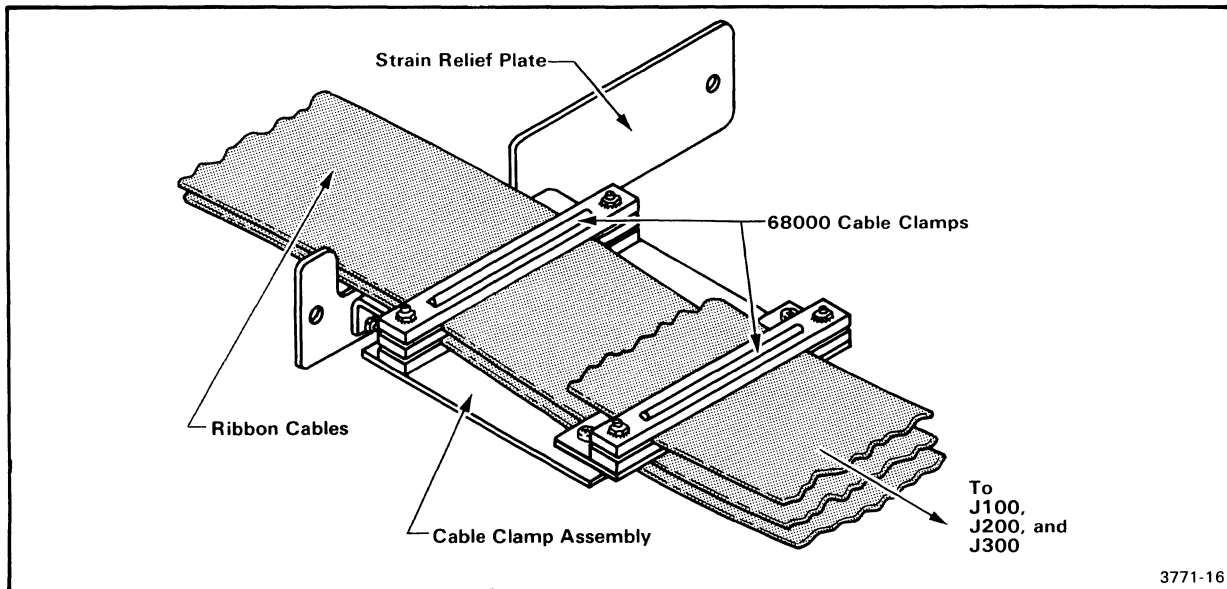

Fig. 9-6. Ribbon cable installation.
12. Ensure that you have allowed enough ribbon cable to reach the Cable Termination board (already attached to EMU 1), which is now located in the development system's card cage. Then mount the long Prototype Control Probe ribbon cables to the cable clamp assembly, using the new clamps provided. Secure the cable clamps with hex nuts and lock washers. Refer to Fig. 9-6.